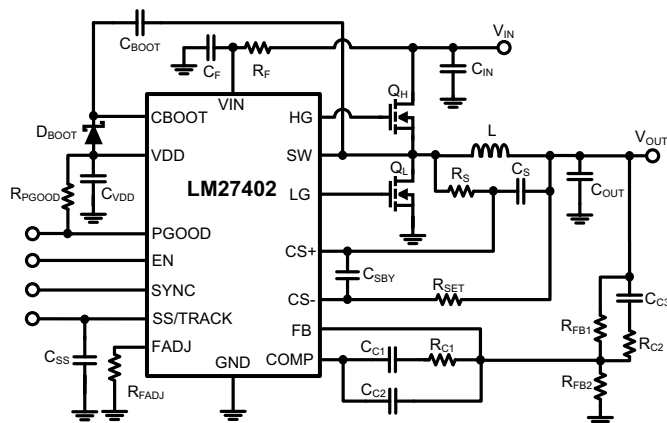

Figure 26. Typical Application Circuit
As with any DC-DC converter, numerous tradeoffs are required to optimize the design for efficiency, size, or performance. Such tradeoffs are highlighted throughout the following discussion. To facilitate component selection, the circuit shown in Figure 26 may be used as a reference. Unless otherwise indicated, all formulae assume units of Amps (A) for current, Farads (F) for capacitance, Henries (H) for inductance and Volts (V) for voltage.
Figure 26 shows R_F and C_F acting as an RC filter to the VIN pin of the LM27402. The filter is used to attenuate voltage ripple that may exist on the input rail particularly during high output currents. The recommended values of R_F and C_F are 2.2 Ω and 1 μ F, respectively. There is a practical limit to the size of R_F as it can cause a large voltage drop if large operating bias currents are present. The VIN pin of the LM27402 must not exceed 150 mV difference from the input voltage rail (V_{IN}).